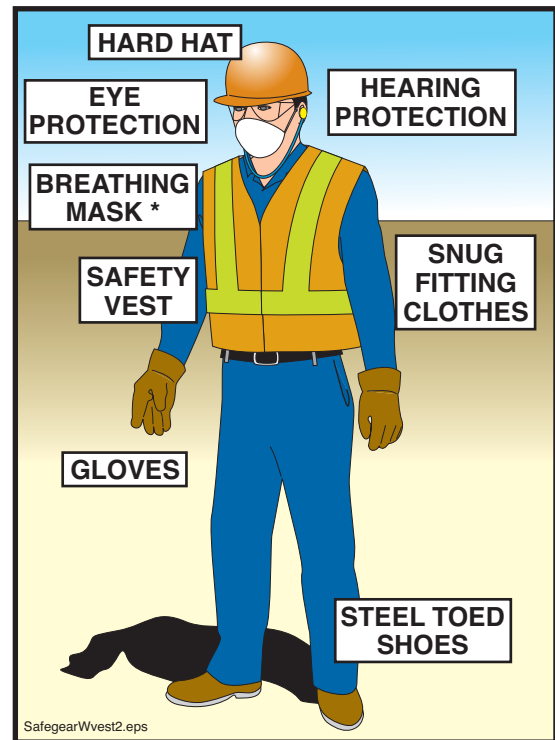

Figure 86
17.4 **⚠ WARNING** Wear Personal Protective Equipment (P.P.E.) when working around a concrete pump (Figure 86). The gloves should resist concrete lime burns. If you will be working **in** the concrete, protect your feet and hands with rubber boots and gloves.